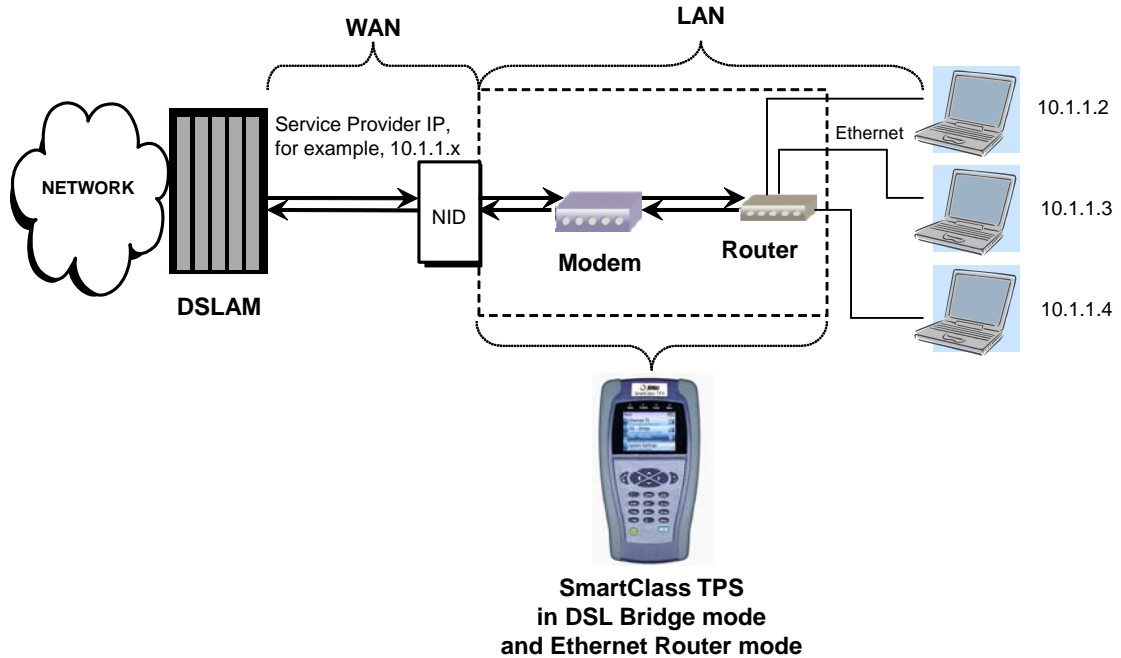

Figure 11 Ethernet Router circuit
- **Ethernet Router Mode** works like Figure 11, below. This mode enables the router between the DSL interface and the Ethernet interface, meaning the SmartClass Triple Play Services will work as the router for the devices connected through the Ethernet port.